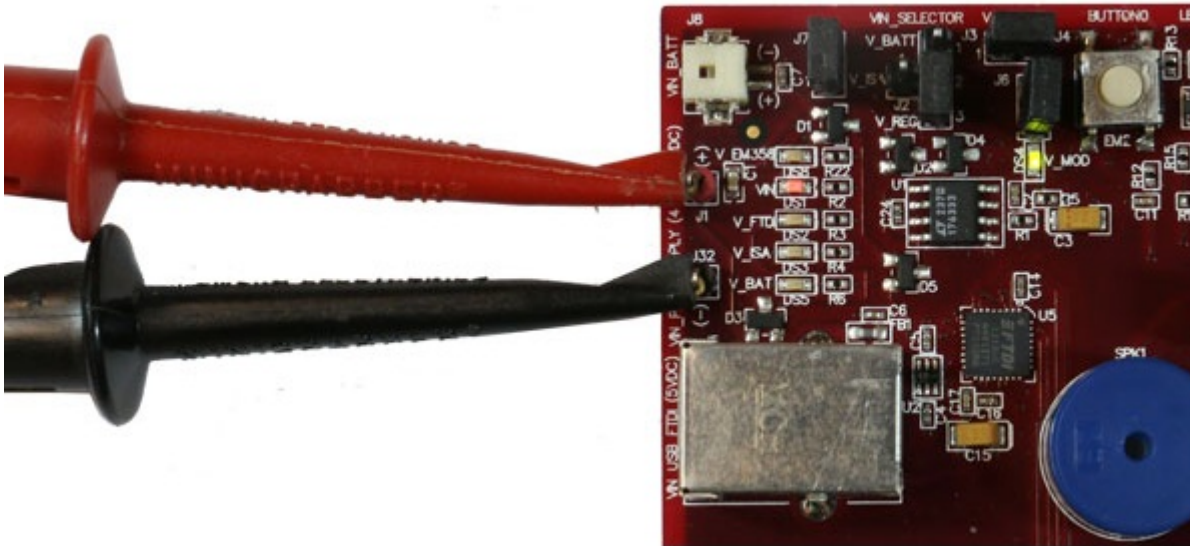

Figure 11. Breakout Board Power Supplied by DC Jumpers
- Breakout Board Power Supplied by DC Jumpers (Figure 11): The Breakout Board may also be powered by an external power source that provides 4-20 V dc. The power supply should be connected to jumpers J1 (+ supply) and J32 (ground). The power supply jumper on the Breakout Board should be in the lower vertical position, connecting V_REG to the center pin. The VIN LED (DS1) will illuminate when power is applied. When powering the Breakout Board in this way, ensure the power switch on the Debug Adapter (ISA3) is in the EXT (External) position.